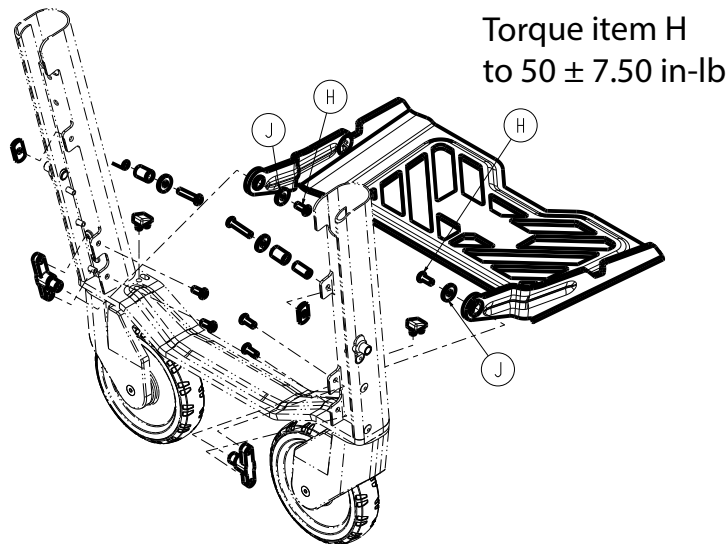

Figure 19 –
6. If equipped with the footrest option: using a T25 Torx driver, remove the button head cap screws (H) and washers (J) that secure the footrest to the leg assembly (Figure 19).